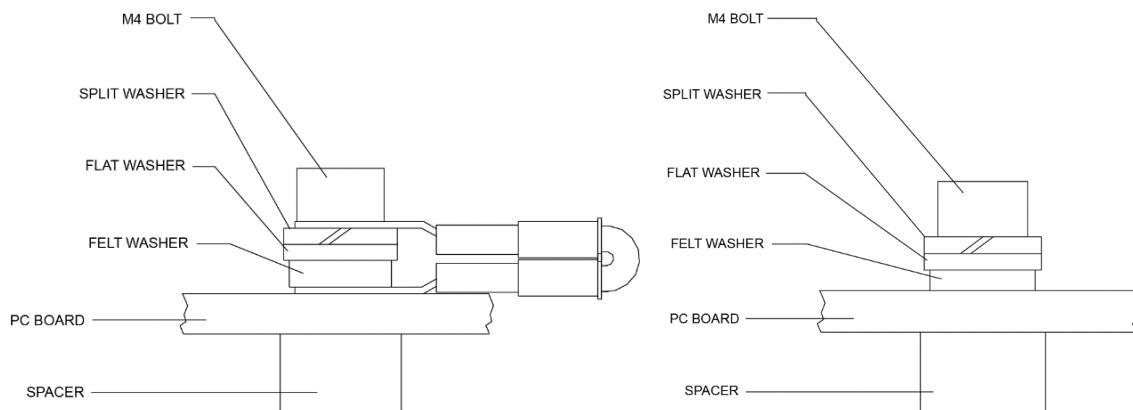

Figure 63. Ground Jumper
2. Remove the four brass thumbnuts from the M4 bolts that secure the spare board set together. You will be using these bolts to secure the boards in your system. DO NOT change the position of any of the bolts. The bolts containing the felt washers and ground jumper must remain in the same position (see Figure 63 and Figure 64).